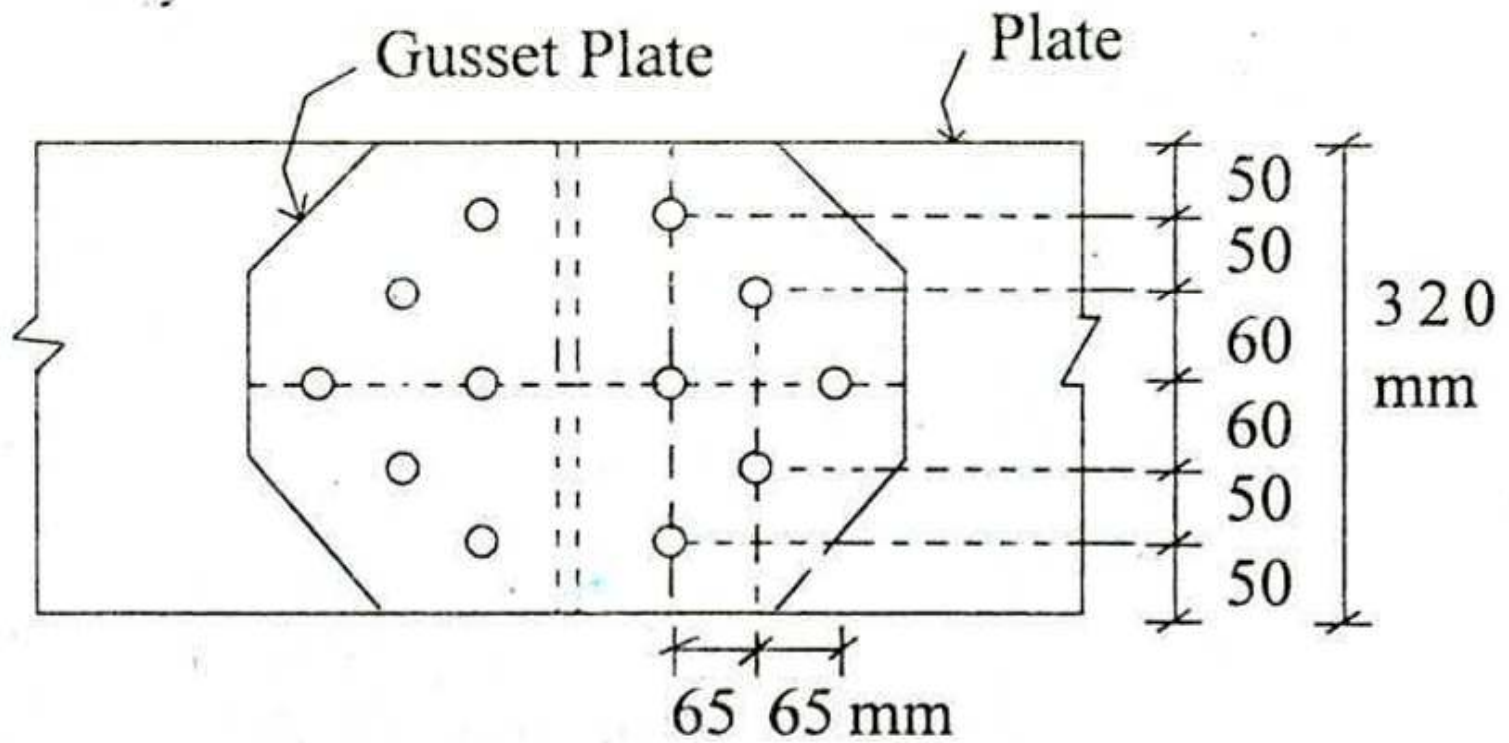

Fig. 7
6. (a) Two steel plates in axial tension are to be connected by bolts as shown in Fig. 7. Determine its tensile strength. Bolt dia = 25 mm, Hole dia = 28 mm, Plate thickness = 16 mm each, $f_u = 440$ MPa, $f_y = 290$ MPa. 20